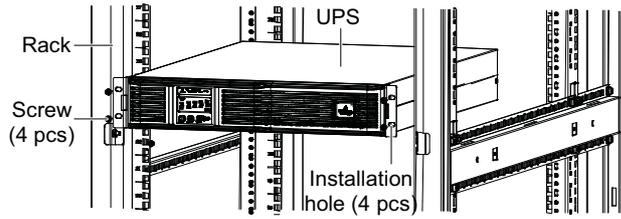

Figure 2-11 Installing UPS
4. Place the UPS on the guide rails in the rack, and push it completely into the rack. Use four M6 × 16 screws to fix the UPS in the rack through the installation hole 2, as shown in Figure 2-11.